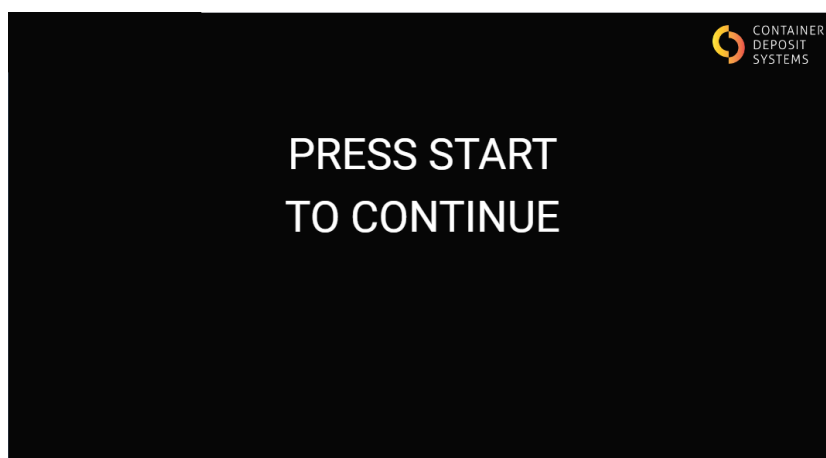

Figure 16. Press Start to continue
- The screen will change to display 'Press Start to Continue as seen on Figure 16. Press Start to continue